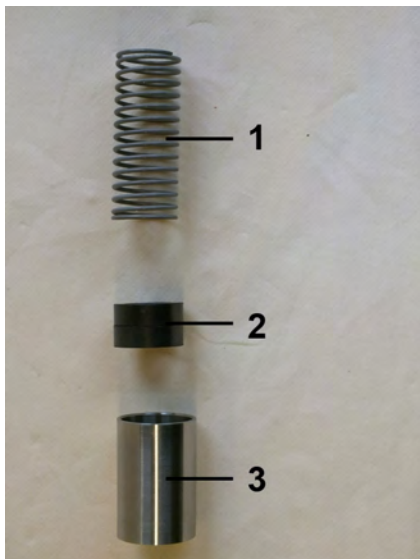

Fig. 39: Spring, magnets and float
4.  The inner parts of the flow monitor consist of the spring (Fig. 39/1), magnets (Fig. 39/2) and float (Fig. 39/3)